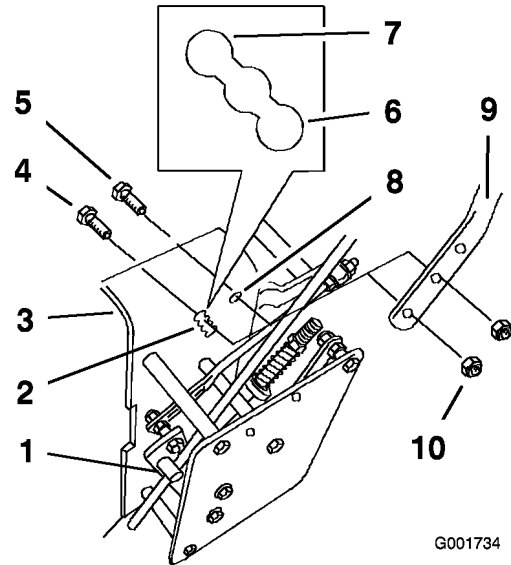

Figure 22
2. Loosen the upper flange bolts (3/8 x 1-1/4 inch) and flange nut securing handle to rear frame (Figure 22).
3. Remove the lower flange bolts (3/8 x 1 inch) and flange nuts securing handle to rear frame (Figure 22).